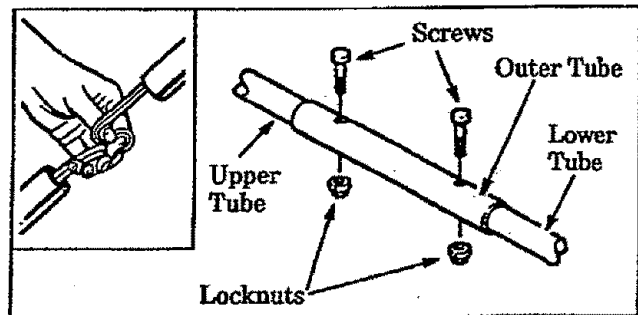

Figure 2
1. Insert the Lower Tube into the Outer Tube and align screw holes. Figure 2.
2. Insert the two screws, one at a time, through the aligned holes. Figure 2. Thread Locknut onto screws and tighten securely.
3. Fold the wire harness and push it into the Lower Tube. Figure 2 (inset). If the wire harness is not long enough to fold, simply push excess wire into the tube.
4. Insert the Outer Tube over the Upper tube and align screw holes. Figure 2.
5. Insert the two screws, one at a time, through the aligned holes. Figure 2. Thread Locknut onto screws and tighten securely.